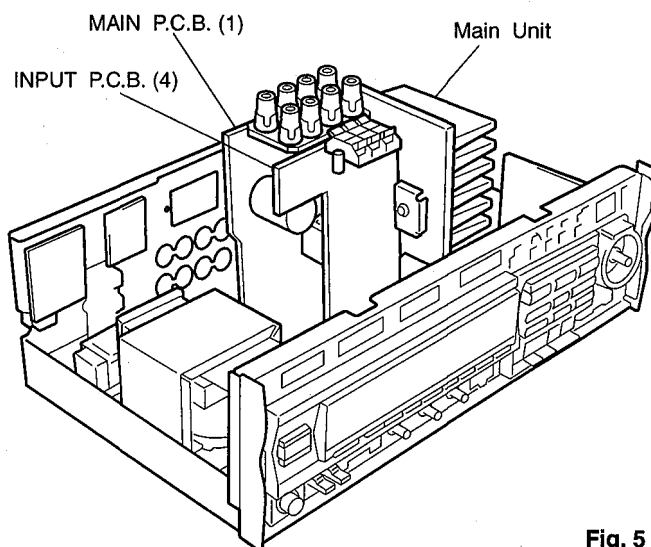

Fig. 5
- Place the Main Unit on its side as shown in Fig. 5.